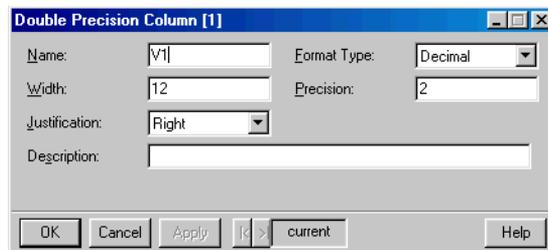

Figure 2.13: *The Double Precision Column dialog.*
1. Double-click in the number box of the column header or click in the column and choose **Format ► Selected Object** from the main menu. The column properties dialog opens, as shown in Figure 2.13.